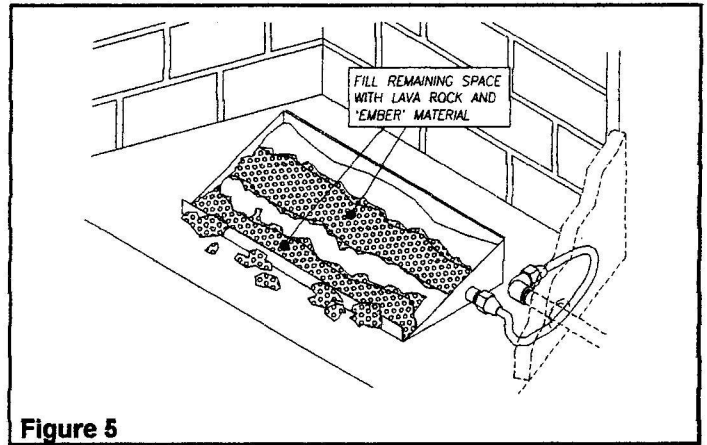

Figure 5
7. Fill the remaining space of the burner pan with the **crushed lava rock**. Keep rock level approximately 1/4" from the top of the burner. Crushed lava rock gives the appearance of a bed of coals beneath the logs. Next, place small pieces of the **ember material** on top of the lava rock. After placing a liberal amount of fiber `embers' on the lava rock, sprinkle the **granulated `ember' material** over the rock and fibers (Figure 5).